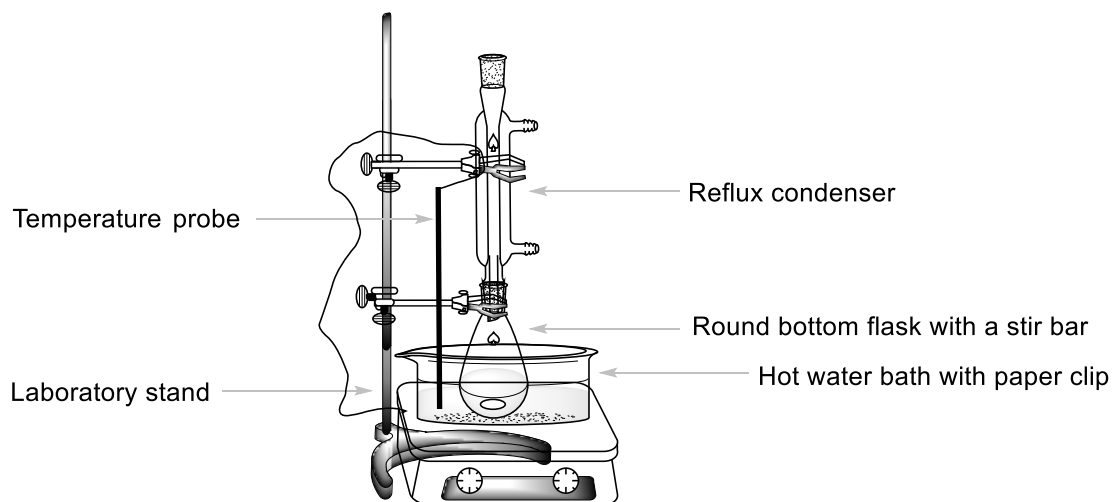

Figure 1. Setup for heating the reaction mixture in a water bath.
1. Prepare the water bath with the paper clip as in Figure 1. Turn on the stirrer and adjust the speed to 540 rpm. Immerse the temperature probe into the bath, not touching the glass. Rest the wire from the probe on the upper clamp. Set the temperature to 80 °C.
3. Place the round bottom flask into the hot water bath. Attach the reflux condenser (water connection is not needed) as shown in Figure 1. Secure the upper part of the condenser loosely using the large clamp. Let **Reactant A** dissolve while stirring.
4. Rinse the reflux condenser with ethanol. Place the Erlenmeyer flask into the hot water bath and attach the reflux condenser (as in Figure 1). Through the top opening of the condenser, add 3